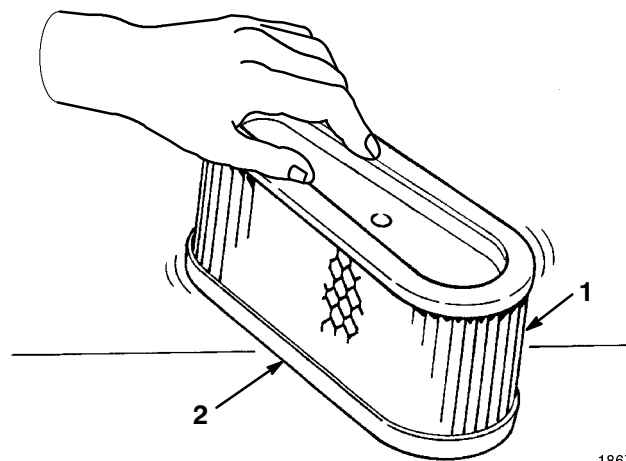

Figure 29
- A. Lightly tap the element on a flat surface to remove dust and dirt (Fig. 29).